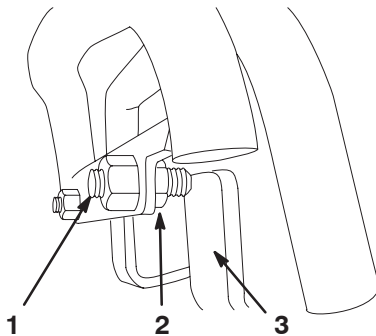

Figure 40
3. If the traction unit veers to the **left**, loosen the **right** jam nut and adjust the tracking set screw on the front of the traction control (Fig. 40).
4. If the traction unit veers to the **right**, loosen the **left** jam nut and adjust the tracking set screw on the front of the traction control (Fig. 40).